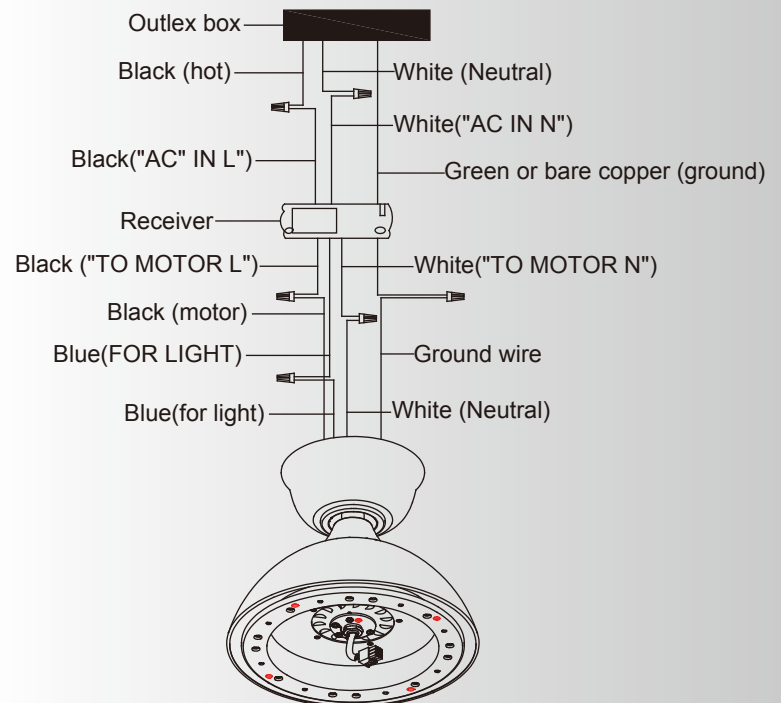

Fig. 14
Step 2. Motor to Receiver Electrical Connections: Connect the BLACK wire from the fan to BLACK wire marked "TO MOTOT L" from the receiver. Connect the WHITE wire from the fan to the WHITE wire marked "TO MOTOR N" from the receiver. Connect the BLUE wire from the fan to the BLUE wire marked "FOR LIGHT " from the receiver. Secure all the wire connections with the plastic wire nuts provided. (Fig. 14)
Step 3. Remote Receiver to Outlet Box Electrical Connections: Connect the BLACK (hot) wire from the ceiling to the BLACK wire marked “AC in L” from the receiver . Connect the WHITE (neutral) wire from the ceiling to the WHITE wire marked “ AC in N” from the Receiver . Secure the wire connections with the plastic wire nuts provided . (Fig. 14)
Step 4. If your outlet box has a ground wire (green or bare copper) connect it to the fan ground wires : otherwise connect the hanging bracket ground wire to the mounting bracket. Secure the wire connection with a plastic nut provided. After connecting the wires, spread them apart so that the green and white wires are on one side of the outlet box and black and blue wires are on the other side. (Fig. 14)